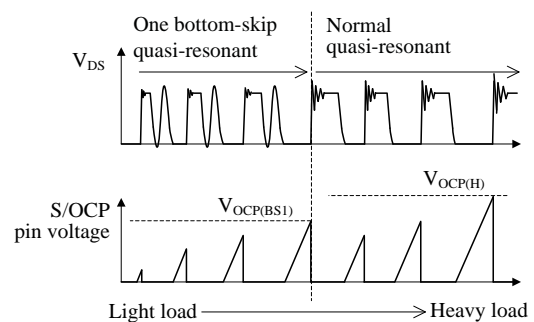
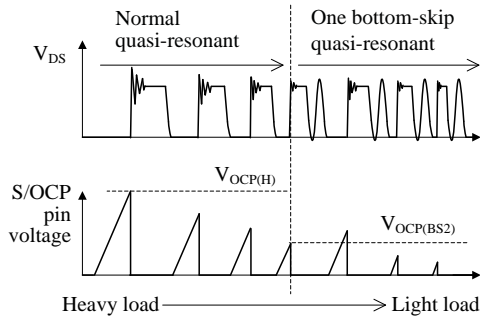

Figure 9-17. Operation state transition diagram from light load to heavy load conditions
Figure 9-18. Operation state transition diagram from heavy load to light load conditions
Figure 9-17 shows the operation state transition diagram of the output load from light load to heavy load. Figure 9-18 shows the state transition diagram from heavy load to light load.
- The mode is changed from one bottom-skip quasi-resonant operation to normal quasi-resonant operation (light load to heavy load). When load is increased from one bottom-skip operation, the MOSFET peak drain current value will increase, and the positive pulse width will widen. Also, the peak value of the S/OCP pin voltage increases. When the load is increased further and the S/OCP pin voltage rises to $V_{OCP(BS1)}$, the mode is changed to normal quasi-resonant operation (see Figure 9-17).
decreases. When load is reduced further and the S/OCP pin voltage falls to $V_{OCP(BS2)}$, the mode is changed to one bottom-skip quasi-resonant operation (see Figure 9-18).